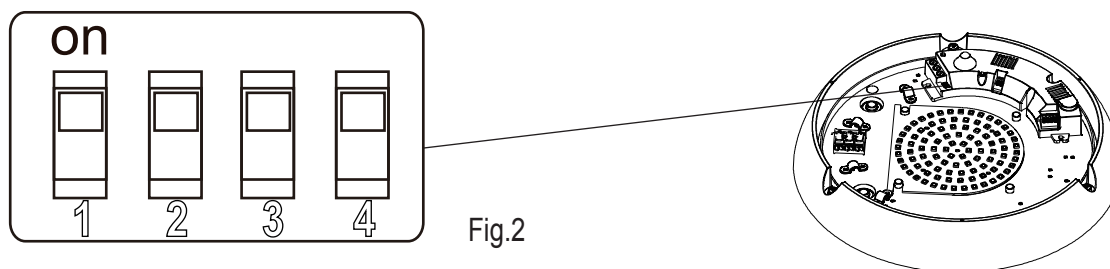

Fig.2
- Step2 Turn the knobs to the ideal conditions (as Fig.2)